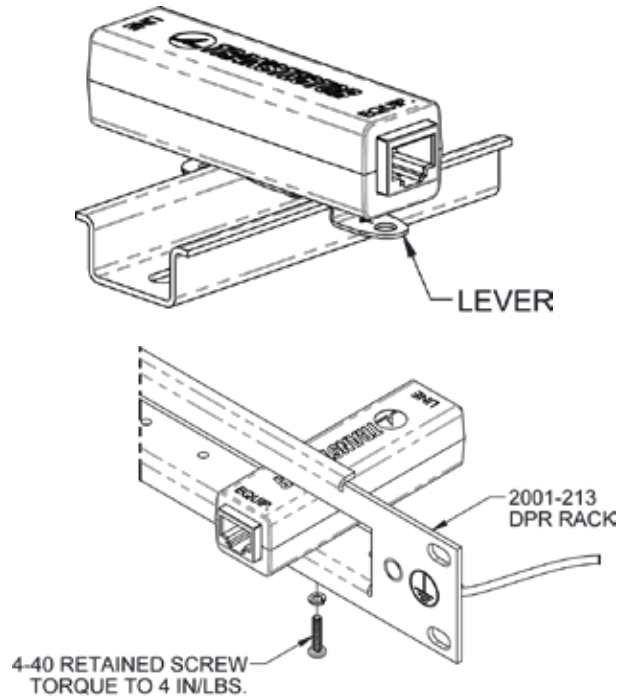

Figure 2.3
2.2. Rack Mounting: First, mount the DPR rack kit to a standard equipment rack using 10-32 screws. Attach the DPR protection module to the rack with the provided 4-40 screw & lock washer from the accessory kit as shown in Fig 2.3.